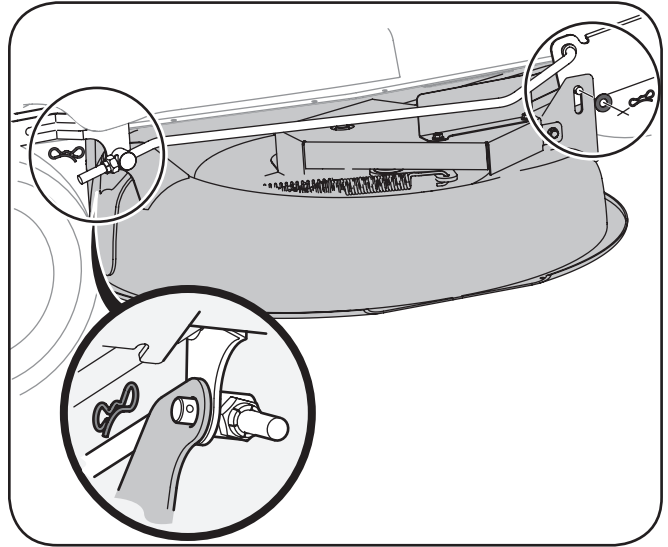

Figure 7-3
5. Remove the remaining bow-tie cotter pins securing the deck to the unit, as shown in Figure 7-3.